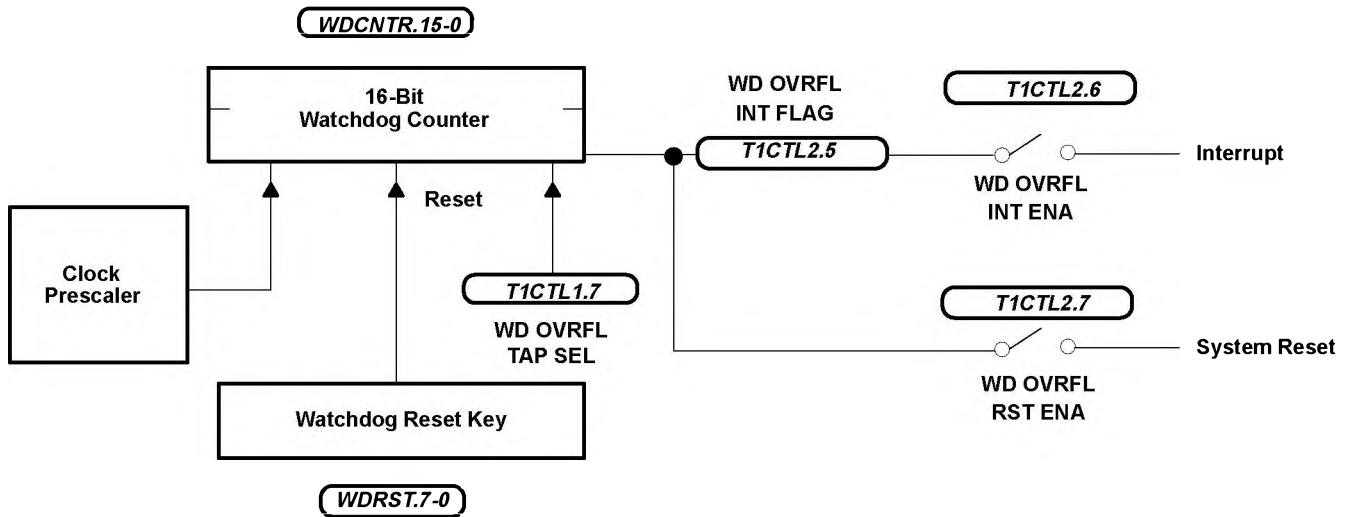

Figure 9. Standard Watchdog
- Standard watchdog configuration (see Figure 9) for 'C722 EPROM and mask-ROM devices: